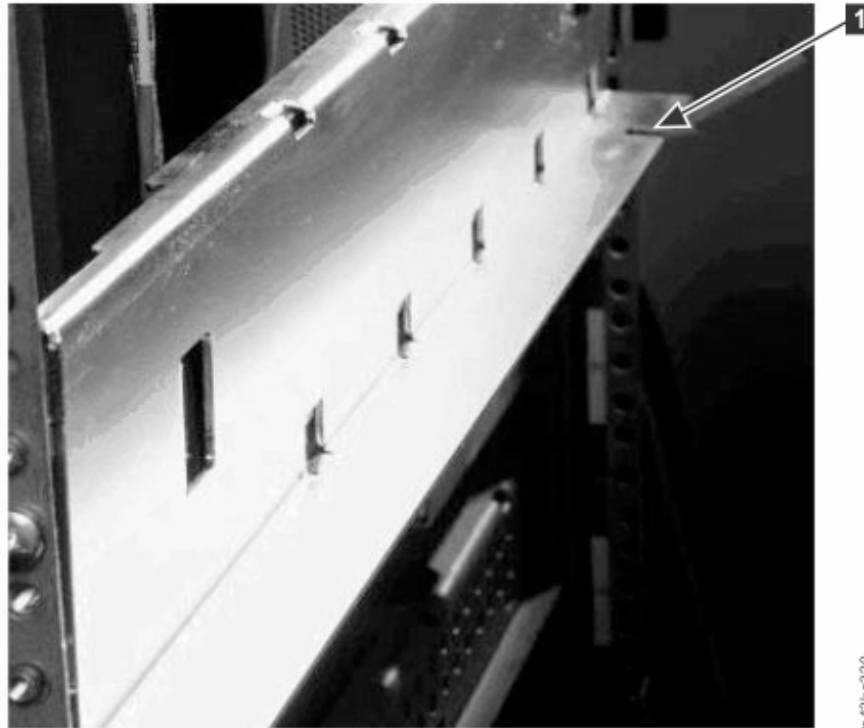

Figure 42. Hole for alignment pin
- a. Move the alignment lever of the upper of the pair of modules to the locked or engaged position. If you encounter resistance, adjust the position of the upper module so the pin in the alignment mechanism moves into the mating hole in the lower module. If you still encounter resistance, check to see if the rack rails are installed correctly. Check that the hole for the alignment pin is on the left rail (looking from the front) toward the back of the rack. See **1** in Figure 42 on page 50.